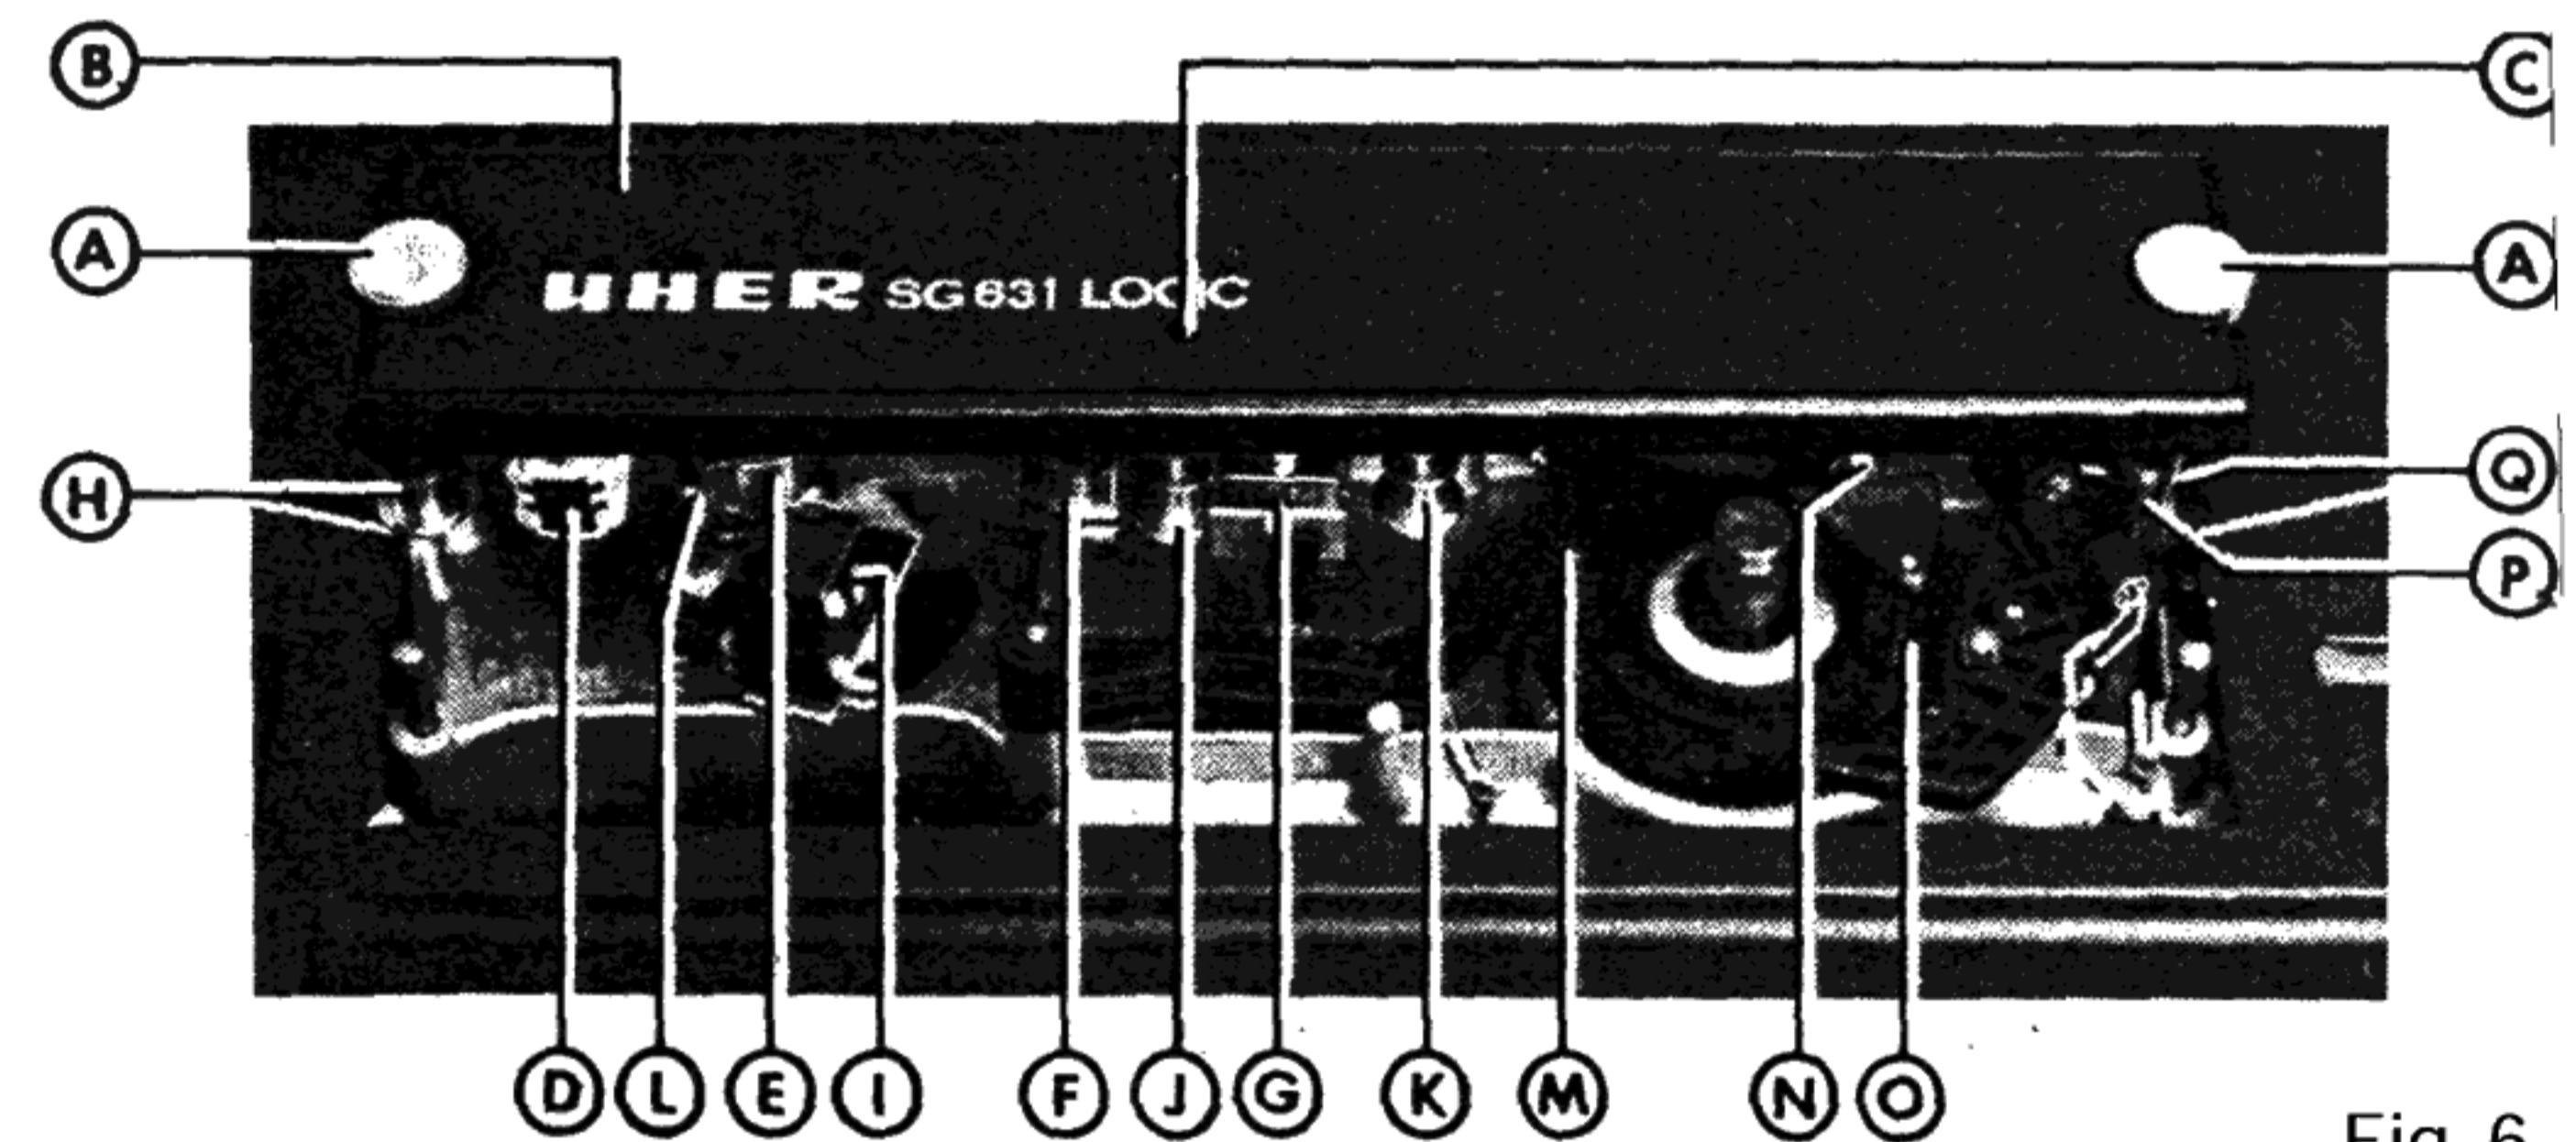

Fig. 6
6.6 Changing Tape Head Assembly Z 401 or Z 411 (See Fig. 6)
7.1 Cleaning Tape-Touching Parts (See Fig. 6)